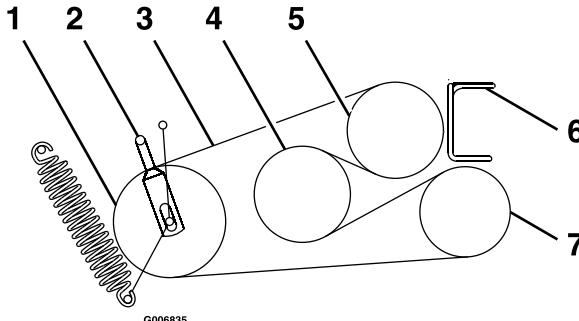

Figure 51
6. Loosen belt guides **A** and **B** (Figure 51).
8. Route the new belts onto the pulleys as shown in Figure 51.